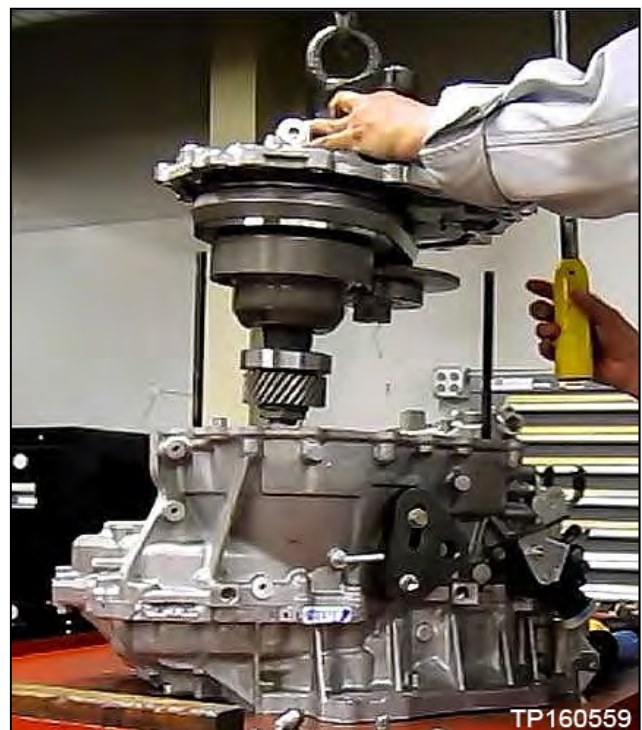

Figure 81
60. Raise the Lifting Fixture to remove the “side cover with pulleys and belt sub-assembly” (sub-assembly) from the CVT case (Figure 81).